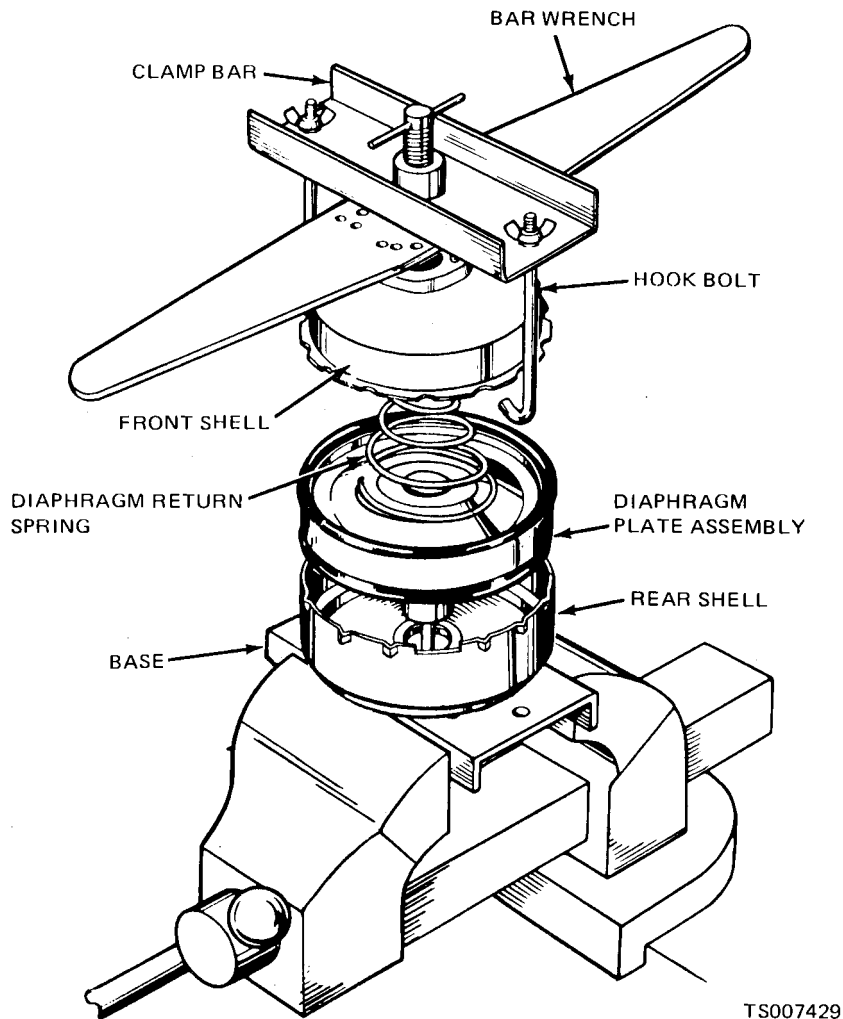

Figure 9-8. Separating Front and Rear Shells.
(4) Use care when prying with wrenches to avoid damage to plastic valve hub. Remove valve rod from vise. Carefully pry retainer off end of valve hub. Do not chip or crack plastic. Remove valve return spring, poppet retainer and poppet.
(5) Make up a removal tool as shown in figure 9-8. Clamp base of special tool in vise as shown in figure 9-8, and insert rear shell studs in matching holes in base (three or four studs as required). Place flat bar wrench over studs of front shell and align top clamp bar with base. Attach hook bolts of top clamp bar to holes at opposite ends of base. Tighten T-handle center bolt just enough to compress shells and free twelve lanced locks around shell edges. Turn flat bar wrench counterclockwise until cut-outs on front shell are aligned with locks on rear shell. Unscrew center bolt. Shells should begin to separate as load on center bolt is released. If shells do not separate, check cut-out and lock alignment and then tap shell flange lightly with soft hammer to break bond between diaphragm and shells.